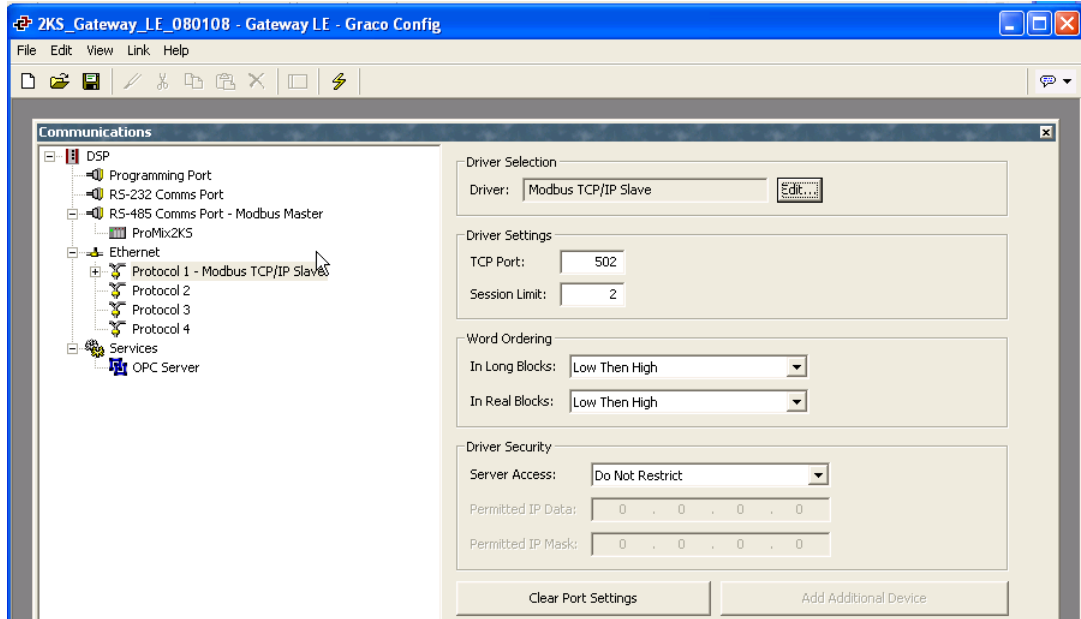

FIG. 19: Preconfigured Database
1. Double-click on the Communications button to open the preconfigured database (.gg2). The file is already setup for ProMix 2KS. See FIG. 19.